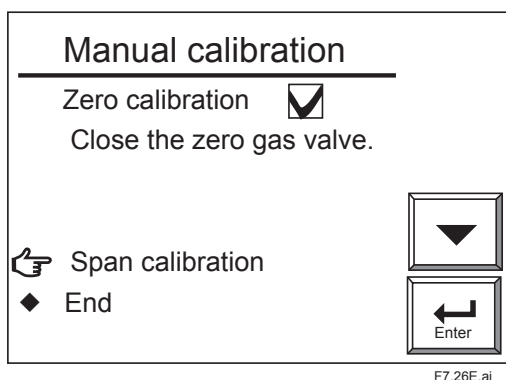

**Figure 7.34** Zero Gas Flow Display
- (7) Follow the instructions in the display as in Figure 7.34 to turn on the zero gas flow. To do this, open the zero gas flow valve for the Flow Setting Unit and adjust that valve to obtain a flow of  $600 \pm 60$  ml/min. The valve should be adjusted by loosening its lock nut and slowly turning the valve shaft counterclockwise. Use the calibration gas flowmeter to check the flow.
- (8) If “Valve opened” is selected as in Figure 7.34 , an oxygen concentration trend graph (with the oxygen concentration being measured) appears (see Figure 7.35). The CAL.TIME in the bottom area of the panel flashes. Observe the trend graph and wait until the measured value stabilizes in the vicinity of the zero gas concentration on the graph. At this point, no calibration has been executed yet, so even if the measured value is above or below the zero gas concentration value, no problem occurs.